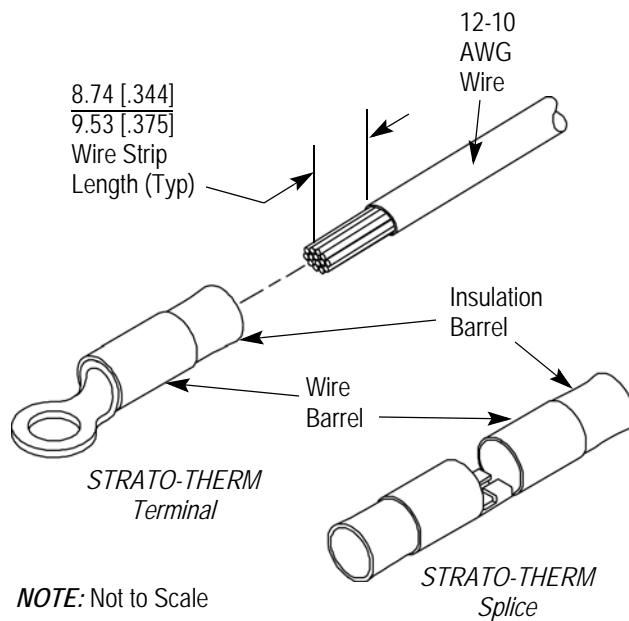

Figure 2
A wire stop prevents the insulation from entering the product wire barrel, and also acts as a guard to prevent injury to fingers. A stop bracket attached to the stop provides support beneath the product during crimping. Figure 2 shows typical product and required wire strip length.
1. Pre-strip wires to the dimensions in Figure 2.